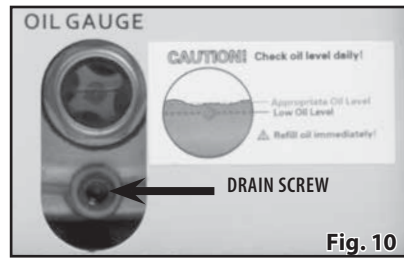

Fig. 10
3. Fill the air compressor until it reaches the appropriate oil level (Fig. 10).
2. Locate the drain screw below the oil level window indicator (Fig. 10).